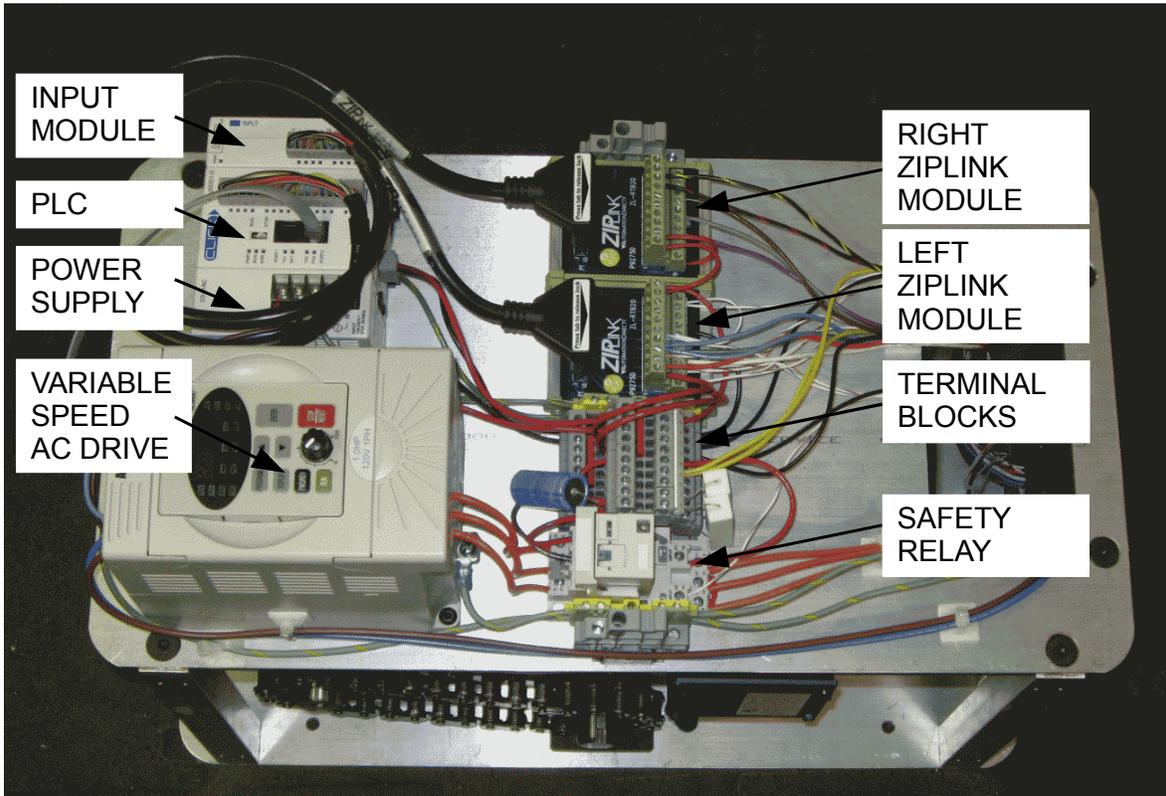

Figure 17: IPL Power Unit Components
Note: voltage measurements such as “0 V” and “24 V” are made by securing the voltmeter negative lead at lower TB9 (the 24 V power supply ground), or a point connected to it, such as C3 on the left ziplink terminal block or the range of lower terminal blocks TB6 to TB10. Place the voltmeter positive lead on the screw terminal at the point to be measured, such as left Ziplink module X3. The left Ziplink terminals are the same points as the PLC (such as X1 to X8), and the right Ziplink terminals (C1, C2, 1, and 2) are the same points as the Input module. Reference Figure 17 for component locations.
- Is the PLC “PWR” lamp lit? (See Figure 17) If not, check the AC power cord and power switch.
- Is the AC drive LED display lit? (See Figure 17.)
- If the E-stop switch is pulled out and the X7 and X8 indicators on the PLC are on (see Figure 19), then measure the voltage at Safety Relay terminal A2. It should be less than 0.5 V if the slack and broken chain switch is closed (see Table 1 and reference Figure 17 for component locations.) Check the slack and broken chain switch action (see Section 4) if the switch is not closed. Otherwise, proceed to check the PLC.
- 4) **AC Drive:** lift the cover near the left side of Figure 17 (below) and verify SW2 and SW3 are in the RS232 position. Reference Figure 18. The flat gray (“communications”) cable between J1 of the AC drive and port 2 on the PLC has a mark on the PLC end of the cable. Verify that the marked end of the communications cable is plugged into port 2 of the PLC.